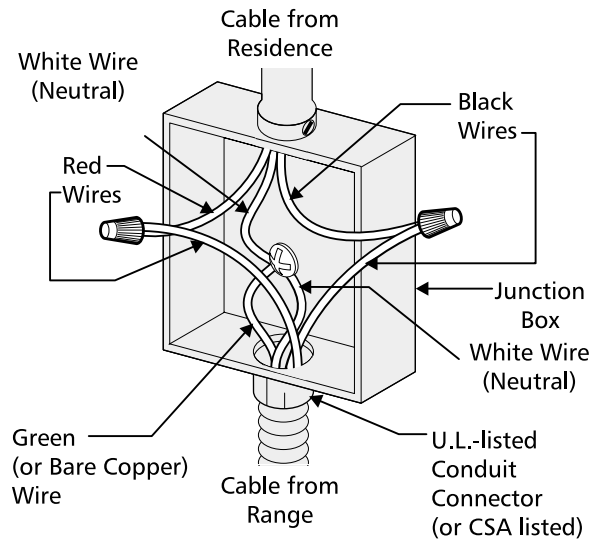

Figure 2
Where local codes permit connecting the cabinet-grounding conductor to the neutral (white) junction box wire (see Figure 2)
2. In the circuit breaker, fuse box or junction box: connect the appliance and the residence cable wires as shown in figure 2.